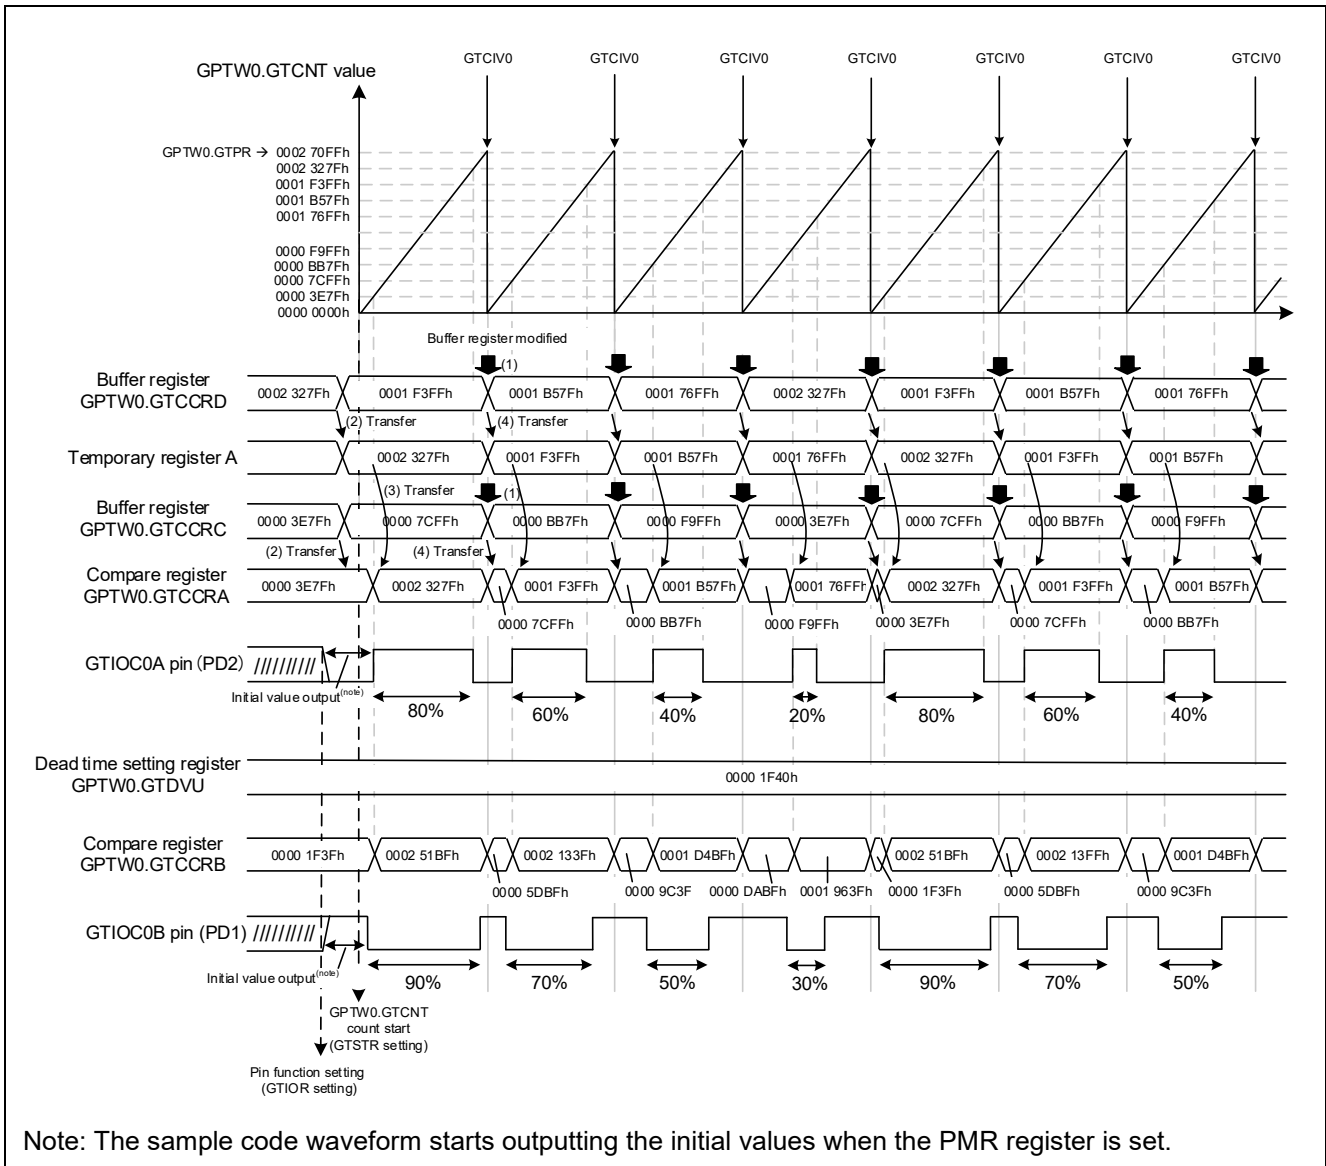

Figure 4.16 Sample Code Operations
- Refer to Figure 4.16 for details on duty change timing
The sample code operations are shown in Figure 4.16. The settings of the duty cycle are changed with each period by modifying the values of buffer registers GTCCRC and GTCCRD at a GTCNT overflow interrupt (GTCIV0) ((4) in Figure 4.16).
The values set in the registers are transferred from buffer register GTCCRD to temporary register A and from buffer register GTCCRC to compare register GTCCRA, respectively, by forced buffer transfers ((2) in Figure 4.16).
1. Transfer from temporary register A to compare register GTCCRA when a GTCCRA compare match occurs ((3) in Figure 4.16).
2. Transfer from buffer register GTCCRD to temporary register A and from buffer register GRCCRC to compare register GTCCRA, respectively, when a GTCNT counter overflow occurs ((4) in Figure 4.16).